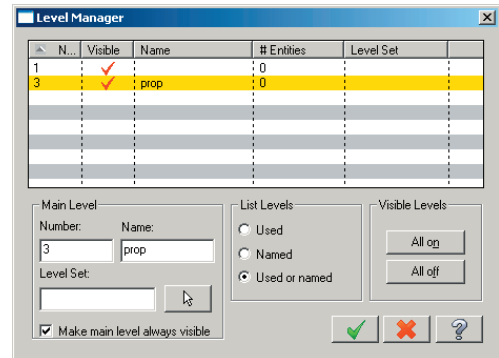

Fig. 1
Step 2. Key-in **3** in the Number field. Press the Tab key to move to the Name Field and key-in **prop** and click OK, Fig. 1.